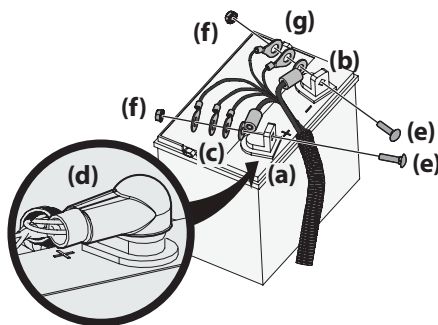

Figure 20
NOTE: The positive battery terminal is marked POS. (+) (a). The negative battery terminal is marked NEG. (-) (b). See Figure 20.
NOTE: If the positive cable grouping (c) is already attached, skip ahead to Step 6. See Figure 20.
3. Slide the red boot (d), if present, back along the positive cable grouping. See Figure 20.
4. Attach the positive cable grouping (c), positive cable for the electric deck lift (if equipped) and positive cable for the 12V outlet (if equipped) to the positive battery terminal (a) with the bolt (e) and nut (f). See Figure 20.
5. Position the red boot (d) over the positive battery terminal (a) to insulate it and help protect it from corrosion. See Figure 20.
6. Attach the negative cable grouping (g), negative cable for the electric deck lift (if equipped) and negative cable for the 12V outlet (if equipped) to the negative battery terminal (b) with the bolt (e) and nut (f). See Figure 20.